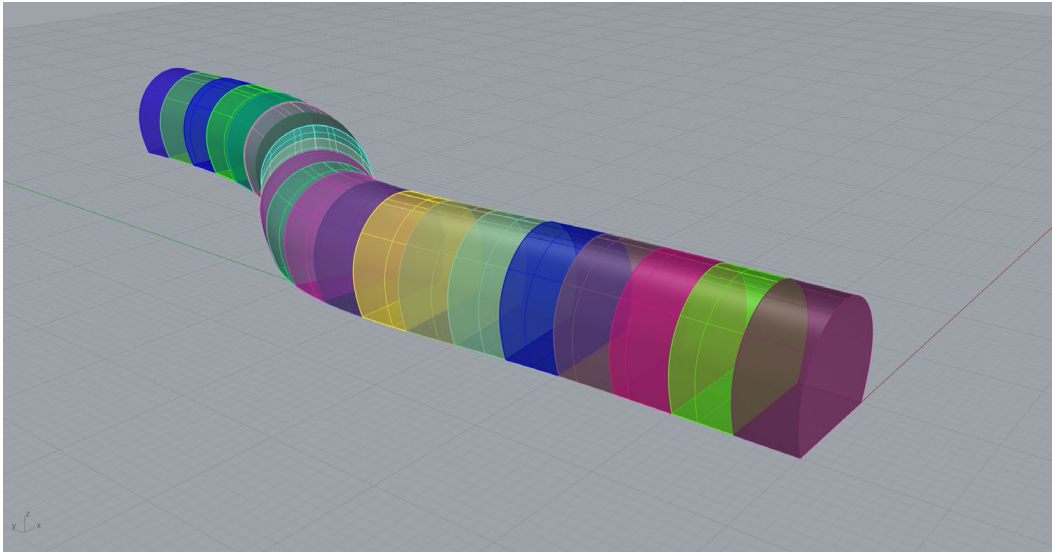

Figure 55: Watertight polysurfaces (solids) representing each excavation stage of the tunnel (Ghosted view).
16. Colorize all stages with *Griddle*’s **_ColorizeObjects** () command (Figure 55).